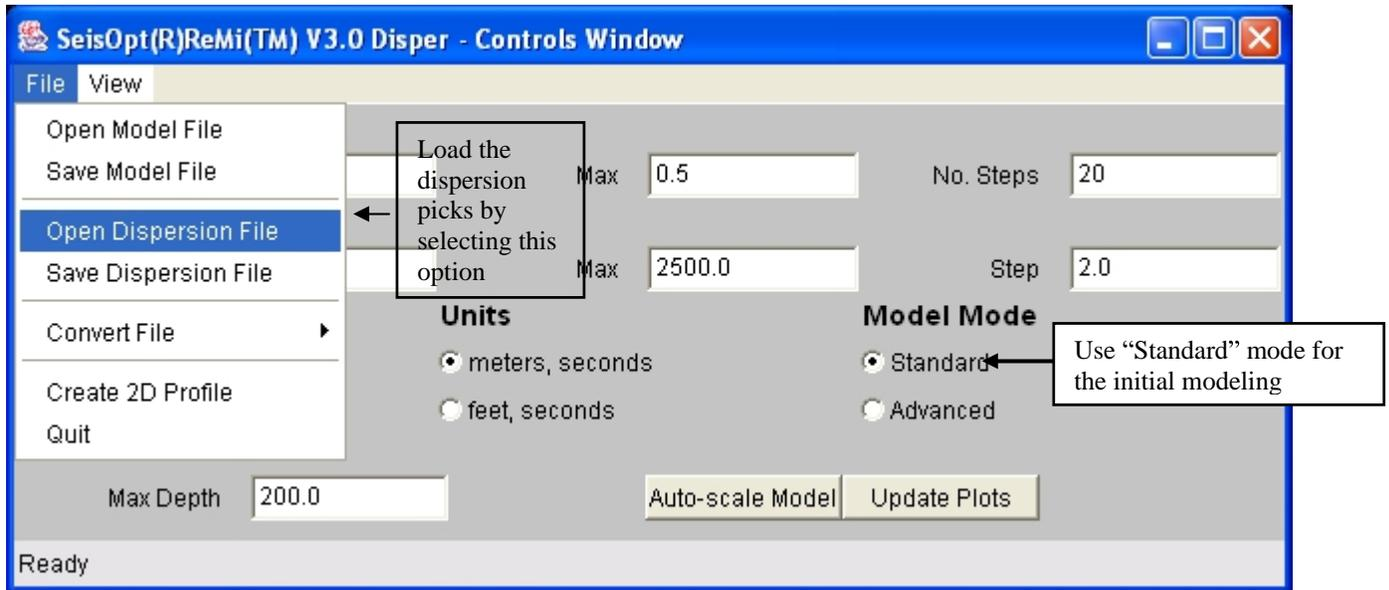
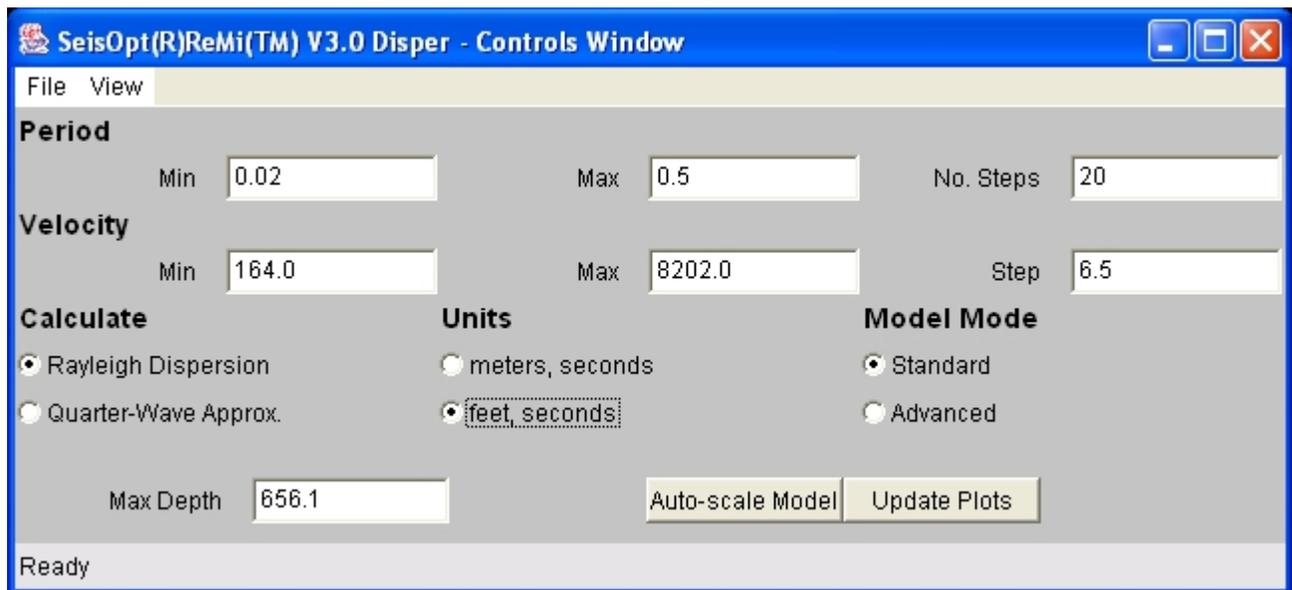

Figure 50: Choose the Open Dispersion File option to load the dispersion picks
Figure 53: Select 'feet, seconds' to do the modeling in units of feet/second
Window’ (Figure 50). You can also load the file using the “Open Dispersion File” under the “File” menu in the ‘Dispersion Curve’ window. If you plan to model the velocity in units of feet/second, make sure you toggle the ‘Units’ option to that in the ‘Controls Window’ (Figure 53). It is recommended that the modeling be done using the “Standard” model mode first. If P-wave velocities are available, then the shear-wave velocities can be refined in the “Advanced” model mode.
- If you wish to model the velocities in feet/sec, toggle the 'Units' option in the 'Controls Window' to feet per second (Figure 53). The velocities displayed in the 'Model Profile' (Figure 54a) and the 'Dispersion Curve' window will change accordingly (Figure 54a). Note that the 'Velocity Step' in the 'Controls Window' will also change. It is recommended that this value not be changed during processing. The only time this might have to be changed is if the shear-wave velocities are very low (<100 m/s) and if the interactive modeling fails to fit the picked picks. If such a situation arises, contact support@optimsoftware.com for suggestions.